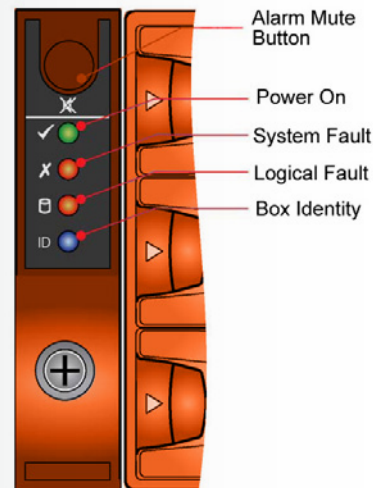

Fig. 05 - OPS Panel
- ◆ Chassis and backplane with integral (front panel mounted) OPS panel (See Fig. 05).
The 12big enclosure front panel incorporates an Operator's (OPS) panel with four LEDs, see Fig. 05. The OPS panel provides the user a superficial view of the operational status of the enclosure components. Please refer to Table 10 - OPS Panel LED States and 4.2.3. OPS Panel LEDs for details of the LED status conditions.